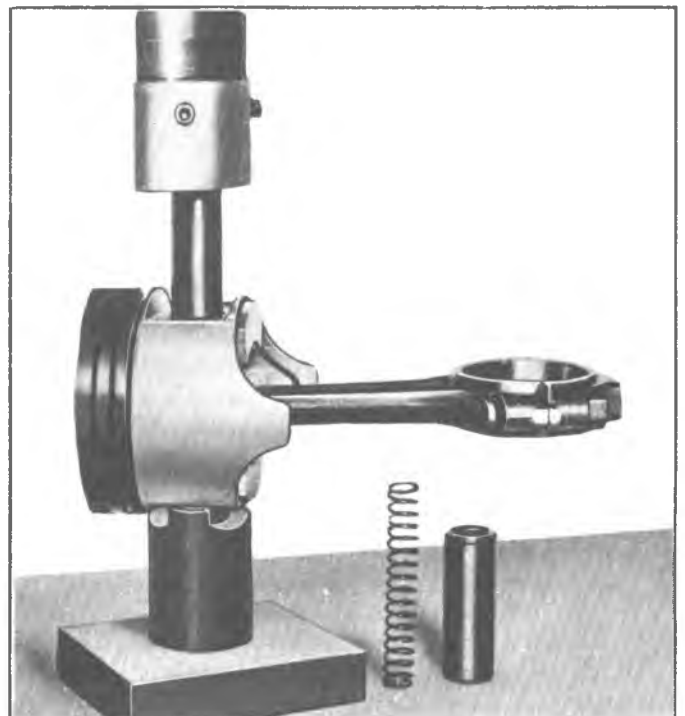
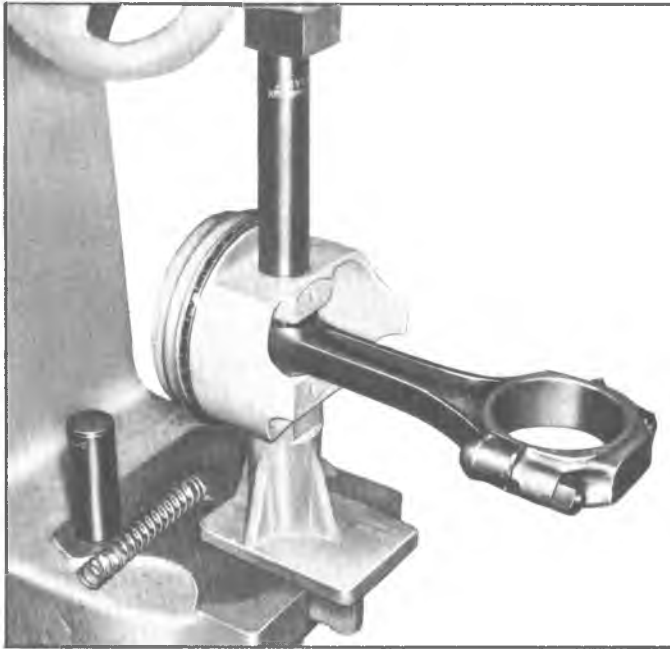

Fig. 50—Removing Piston Pin (In-Line and "Small V8")
Fig. 51—Removing Piston Pin ("Mark IV V8")
3. Using Tool J-9500 for In-Line and "Small V8" (fig. 50) or Tool J-6994 for "Mark IV V8" (fig. 51), place connecting rod and piston assembly in an arbor press with piston on Support then using Remover, press piston pin out of connecting rod and piston.